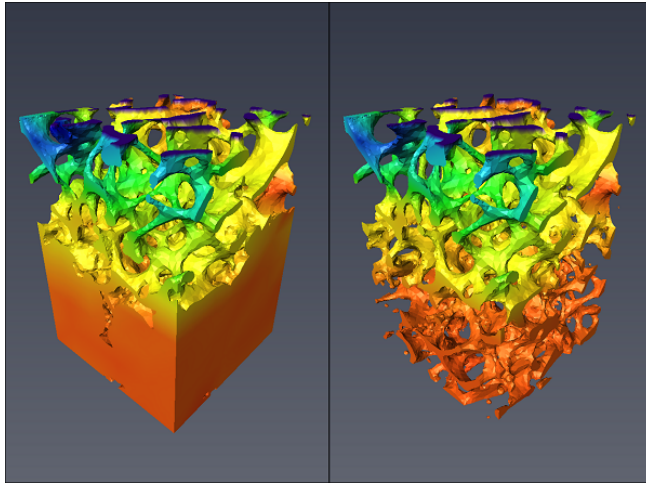

Figure 21.19: Tetragrid Visualisation (left - cement/bone ; right - bone)
- Load tetrahedral grid data `data/tutorials/xvolume/mcorrelation/BCI_reference3.labels.tetra.am` (Figure 21.19).